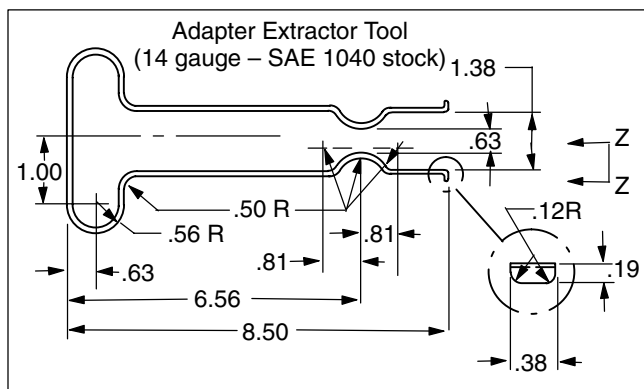

Figure 8.
The adapter extractor tool is designed to remove the hub adapter from the body after the cartridge is removed (see Figure 8). The extractor tool engages between the ball bearing and the hub adapter.
2. **Shaft End.** Remove the shaft key. Carefully pull the hub adapter from the body with the adapter puller tool (see Figure 8). Remove spirolox ring next to the shaft bearing from the body, then tap the shaft and bearing assembly out. If it is necessary to remove the small snap ring and bearing from the shaft, support the bearing inner race in an arbor press, remove snap ring and press bearing off the shaft. Remove washer and then shaft seal and wiper from the body.